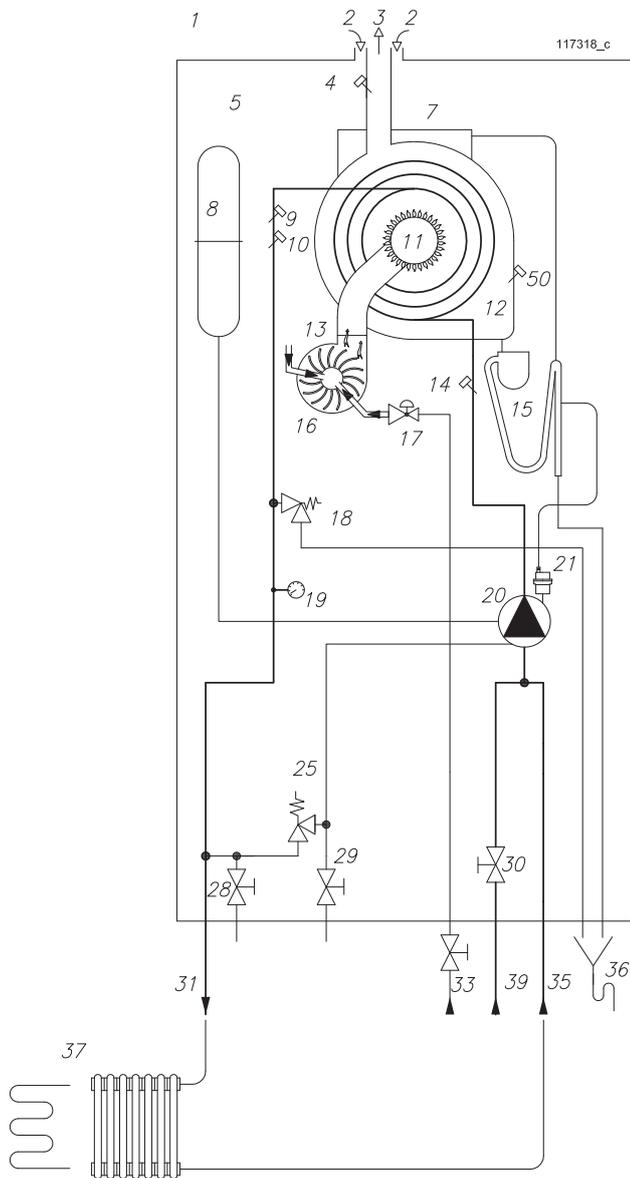

Figure 4-3 – Hydraulic layout
C) - MYDENS -- "C". With this boiler it is possible to create a system for central heating only with the heating elements operating at a temperature between 30°C and 80°C. An example of this type of set-up is given in fig. 4-3.